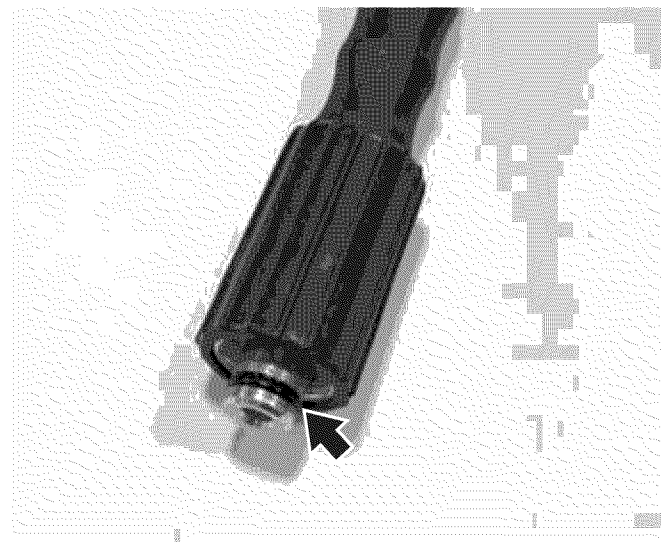

Figure 15 – High-Pressure Hose O-Rings
13. Inspect the O-rings on both sides of the high-pressure hose. Moisten the O-rings with water (see Figure 15).